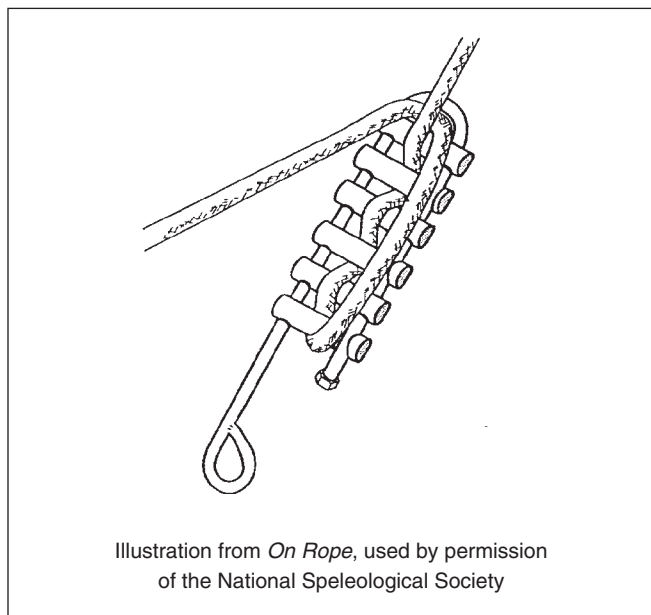

Figure 6l—Locking off the rappel rack—first bind.
- B. Lock off the rack by keeping the running end of the rope taut and slipping it between the standing part of the rope and the top of the rack (figure 6l). Do not allow the rope to become pinched between the rack and the standing part of the rope below the first brake bar.